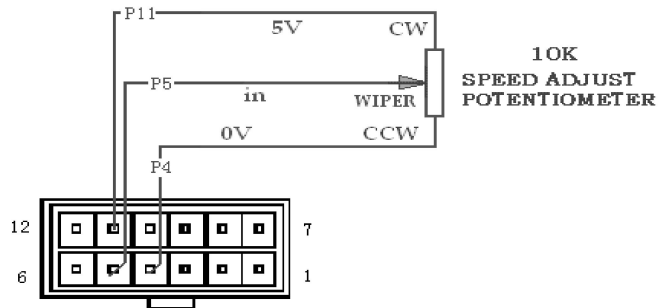
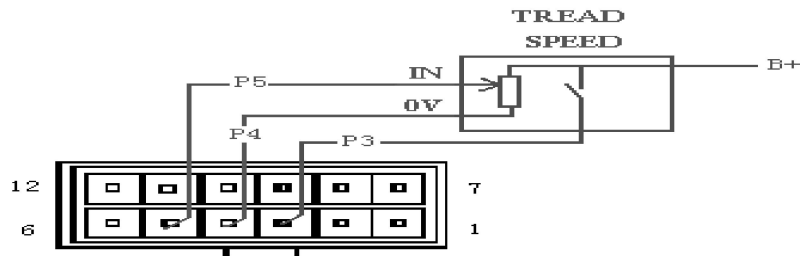

Figure6
Figure9
Connection: see Figure 6
Use speed regulating potentiometer complying with Figure 6, and connect regulating potentiometer of 10k resistance among terminals, P11, P4 and P5.
4. Wiring for the foot accelerator and the controller (please choose the foot accelerator type controller) refers to Figure 9.
Use the speed regulating foot accelerator complying with Figure 9, and connect regulating foot accelerator among terminals, P3, P4, P5 and B+. (Note: if adopt resistance-type accelerator as foot accelerator, wiring method should refer to Figure 6: potentiometer-type wiring diagram).